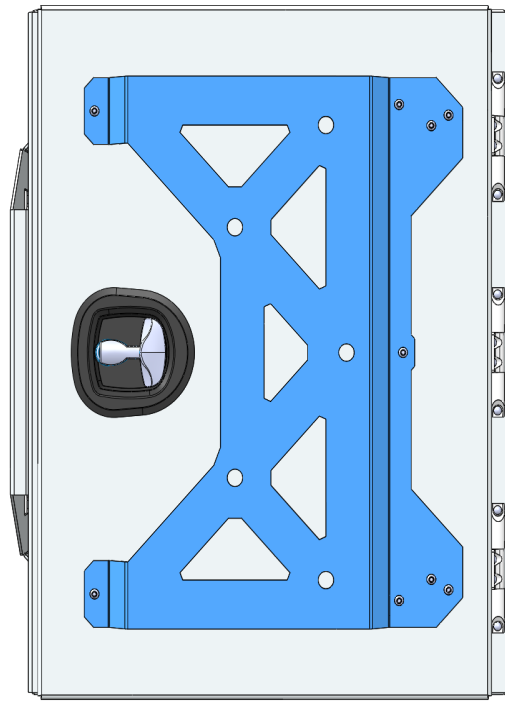

Figure 3
2. Place Front Panel on the outside of the door and fasten the gas strut mount (door side) and front panel together to the door using (9) ¼-20 hardware as seen in **Figure 3**.